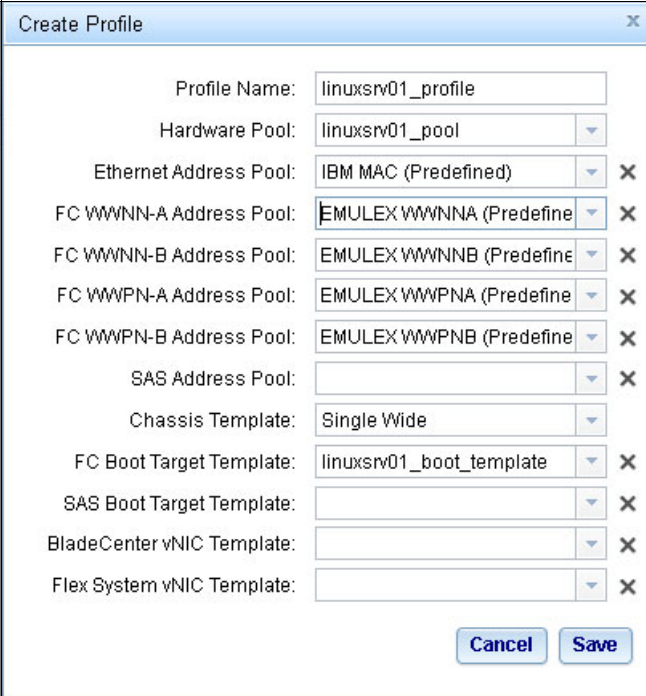

Figure 8-9 Creating a profile
2. Click the **Actions** menu and select **Add**. Figure 8-9 shows the Create Profile window.